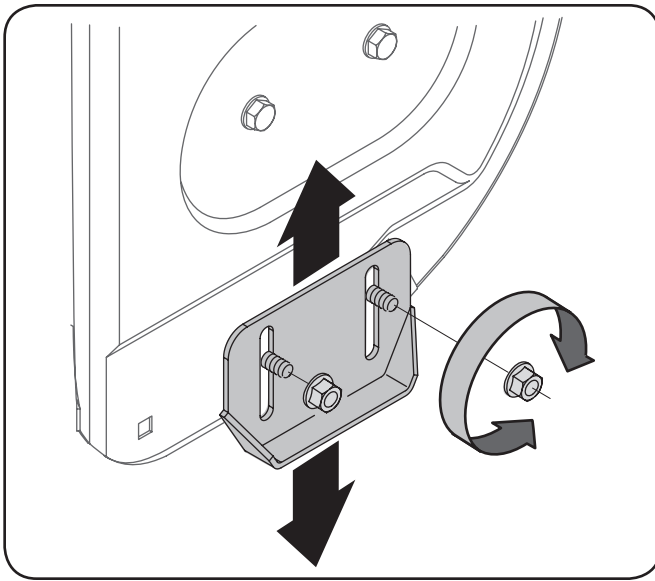

Figure 3-9
1. Loosen the four hex nuts (two on each side) and carriage bolts. Move skid shoes to desired position. See Fig. 3-9.